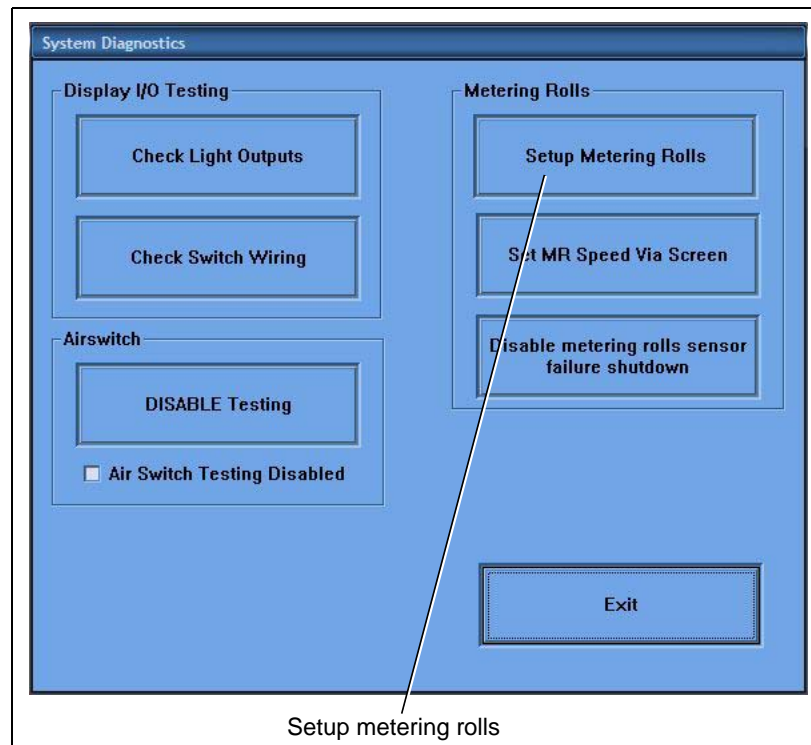

Figure 3G System Diagnostics Screen Setup Metering Rolls Button
8. Now touch the SETUP METERING ROLLS button. (See Figure 3G.)